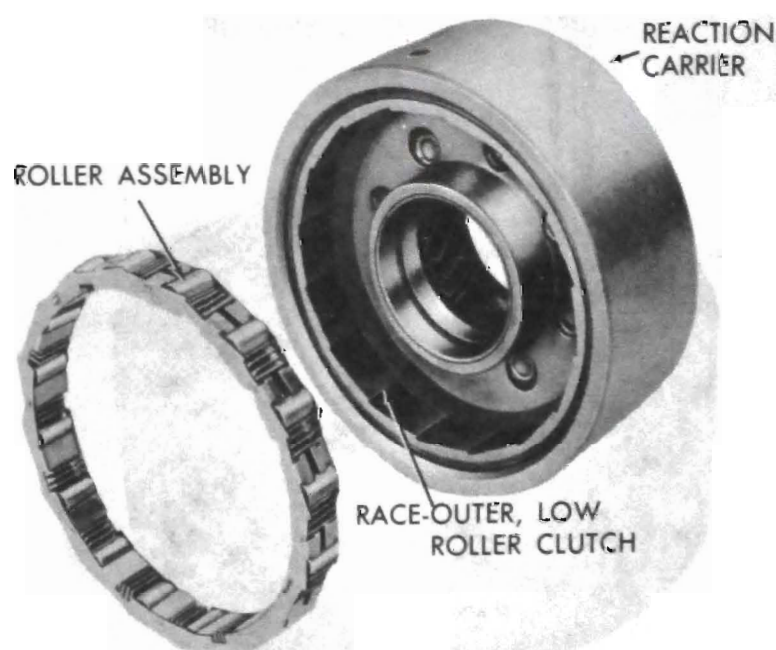

Figure 76-123
2. Inspect roller clutch outer race for scoring or wear. See Figure 76-123.